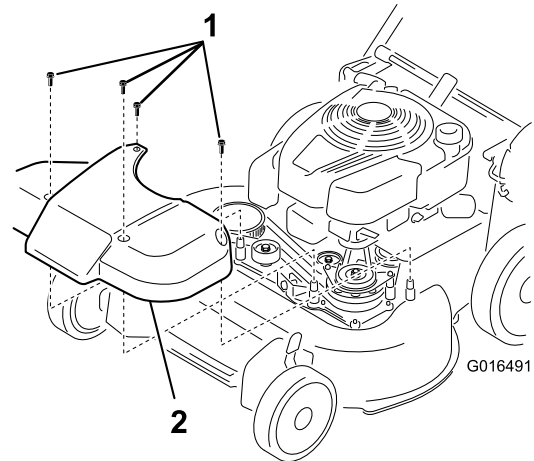

Figure 39
1. Remove the blade-drive system cover (Figure 39).